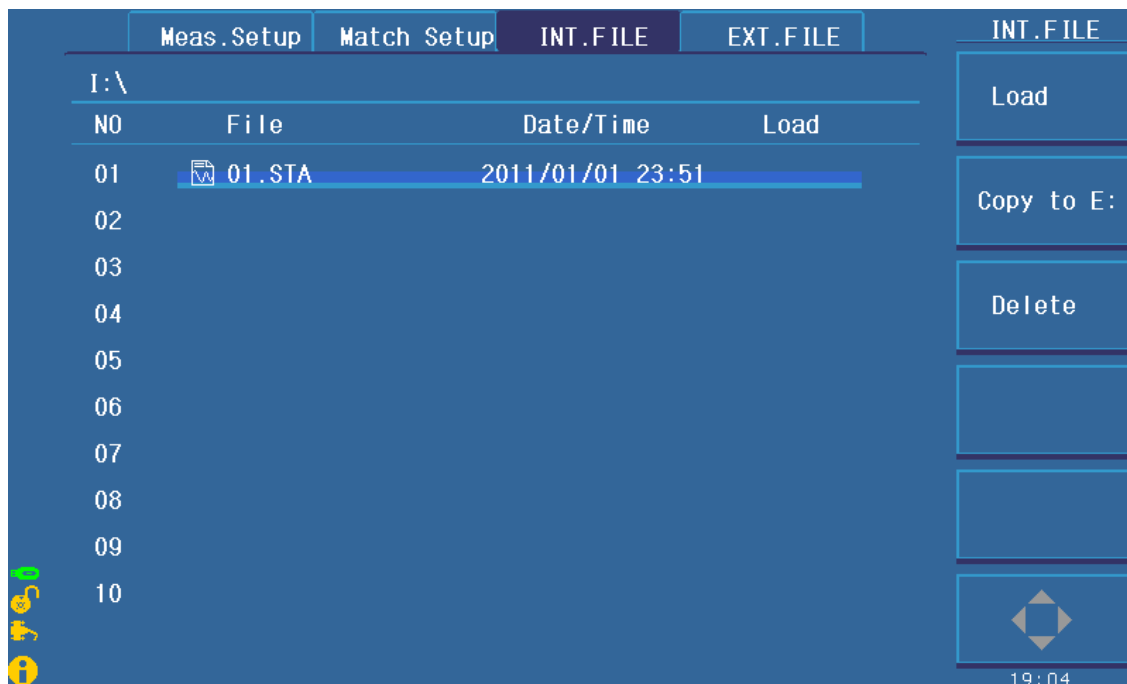

Figure 5-3 Internal File
TH2883 series can save parameters that are set by user to the internal non-volatile memory in file format. User can load the file to use these parameters instead of resetting. The internal memory can store 100 groups of files including files of measure parameters, compare parameters, etc. Figure 5-3 shows the page of internal file.
- ✧ **Load** Press this key to load a file stored in the internal non-volatile memory. As figure 5-3 indicates, using the arrow key or the roller can select the needed key. Press **LOAD** to load the file. If the selected file is needed to load, press **YES**; otherwise, press **NO**.